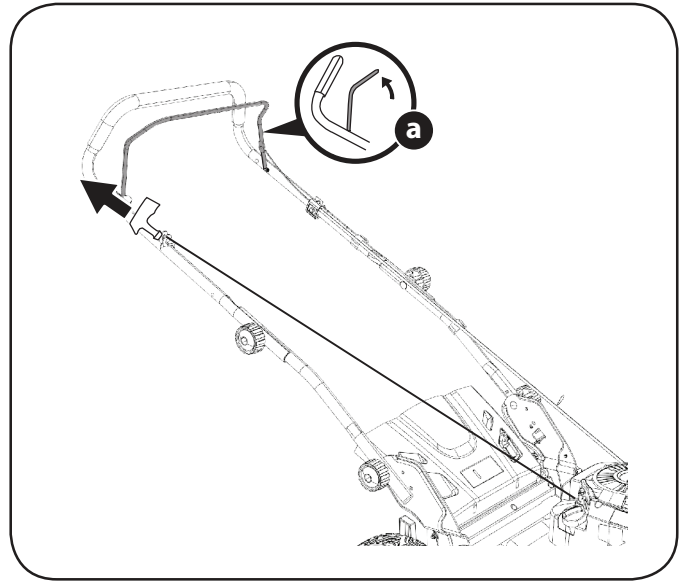

Figure 11
1. Standing behind the mower, pull the blade control handle back against the upper handle (Figure 11).
1. Hold the blade control against the upper handle (Figure 11).
2. Start the engine (Figure 11).